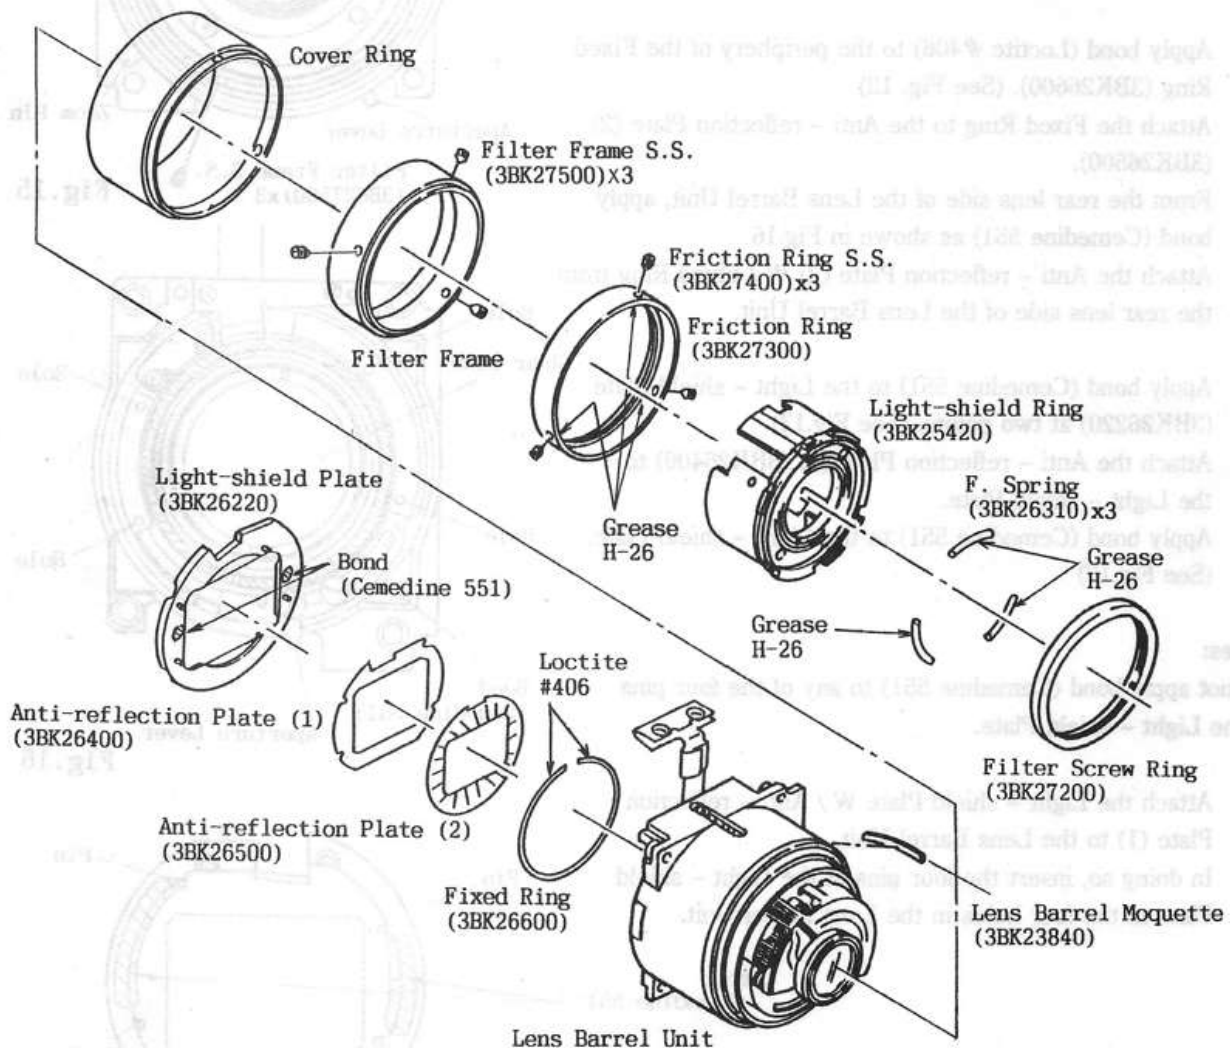
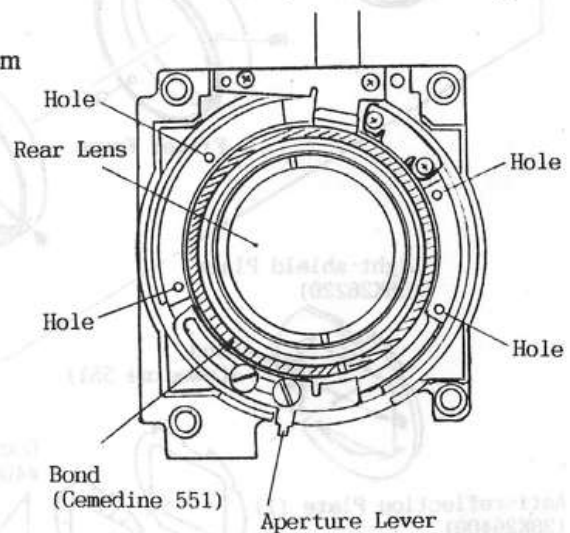

Fig.13
Fig.16
- 5) Apply bond (Loctite #406) to the periphery of the Fixed Ring (3BK26600). (See Fig. 13)
- 6) From the rear lens side of the Lens Barrel Unit, apply bond (Cemedine 551) as shown in Fig.16.
- 7) Attach the Anti - reflection Plate (2) W / Fixed Ring from the rear lens side of the Lens Barrel Unit.
- 8) Apply bond (Cemedine 551) to the Light - shield Plate (3BK26220) at two points. (See Fig.13)